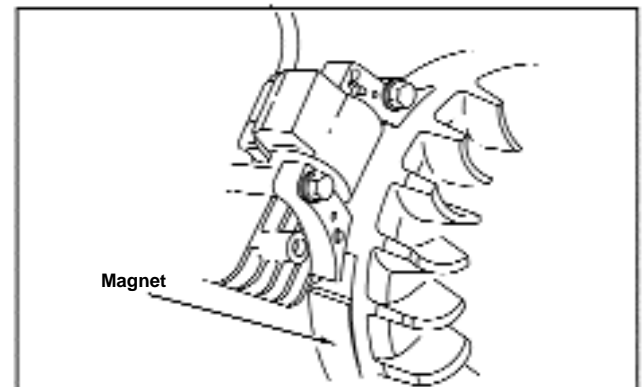

Figure 68 - Magnets Away from Armature
**Note:** Armature air gap on 9 horse power engines is not adjustable. Armature air gaps should be no less than .012 inches (0.31 mm.) and no greater than .020 inches (0.51 mm.) If armature air gap is incorrect, inspect crank shaft main bearings for damage or free play. See Figure 68 and 69.